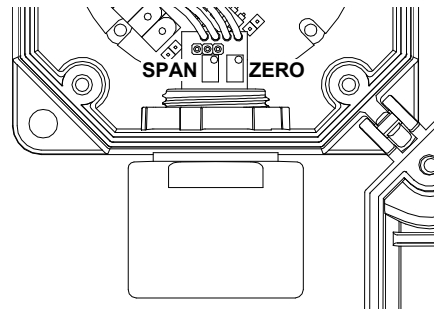

Fig. 9a: Position of Zero and Span controls on the sensor for combustible gases.
- With the transmitter in clean air, rotate the 'ZERO' trimmer (see Fig. 9a) in anti-clockwise direction, until the current stops at a minimum value (about 4.00mA), then turn the trimmer in clockwise direction until the value rises up a little bit (eg: 4.10mA), then turn slowly the trimmer in anti-clockwise direction until bringing the current as close as possible to the minimum value (eg: 4.00mA) without exceeding this value.